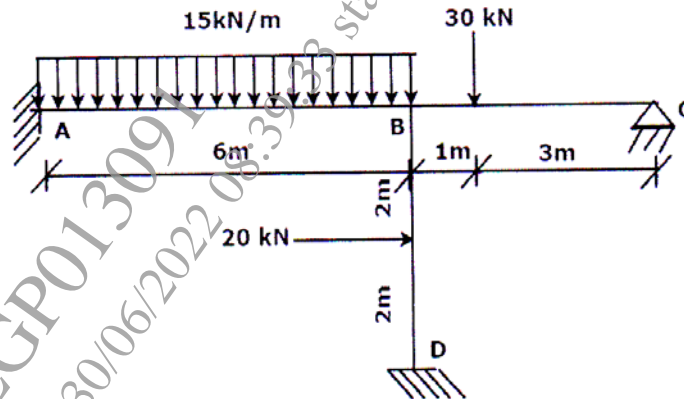

Figure 10
b) Analyse the frame shown in figure 10 by stiffness method and draw bending moment diagram. [13]